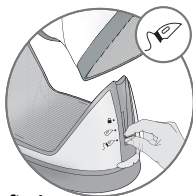

fig.1
- Put the switch into the Corded position  – **fig.1** and remove the iron from its base.